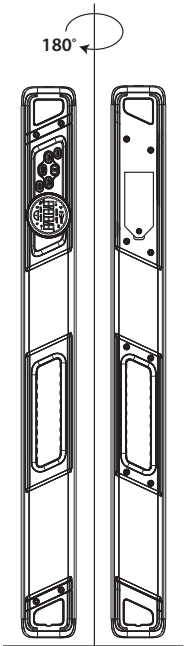

Figure 5
- Rotate the device 90°, and then press (3). **CAL3** starts flashing and then changes to **CAL4**.
- Without moving the device, rotate it 180°, and then press (3). **CAL4** will start flashing. When **CAL4** disappears from the display (8), the vertical calibration is complete (Fig. 5).